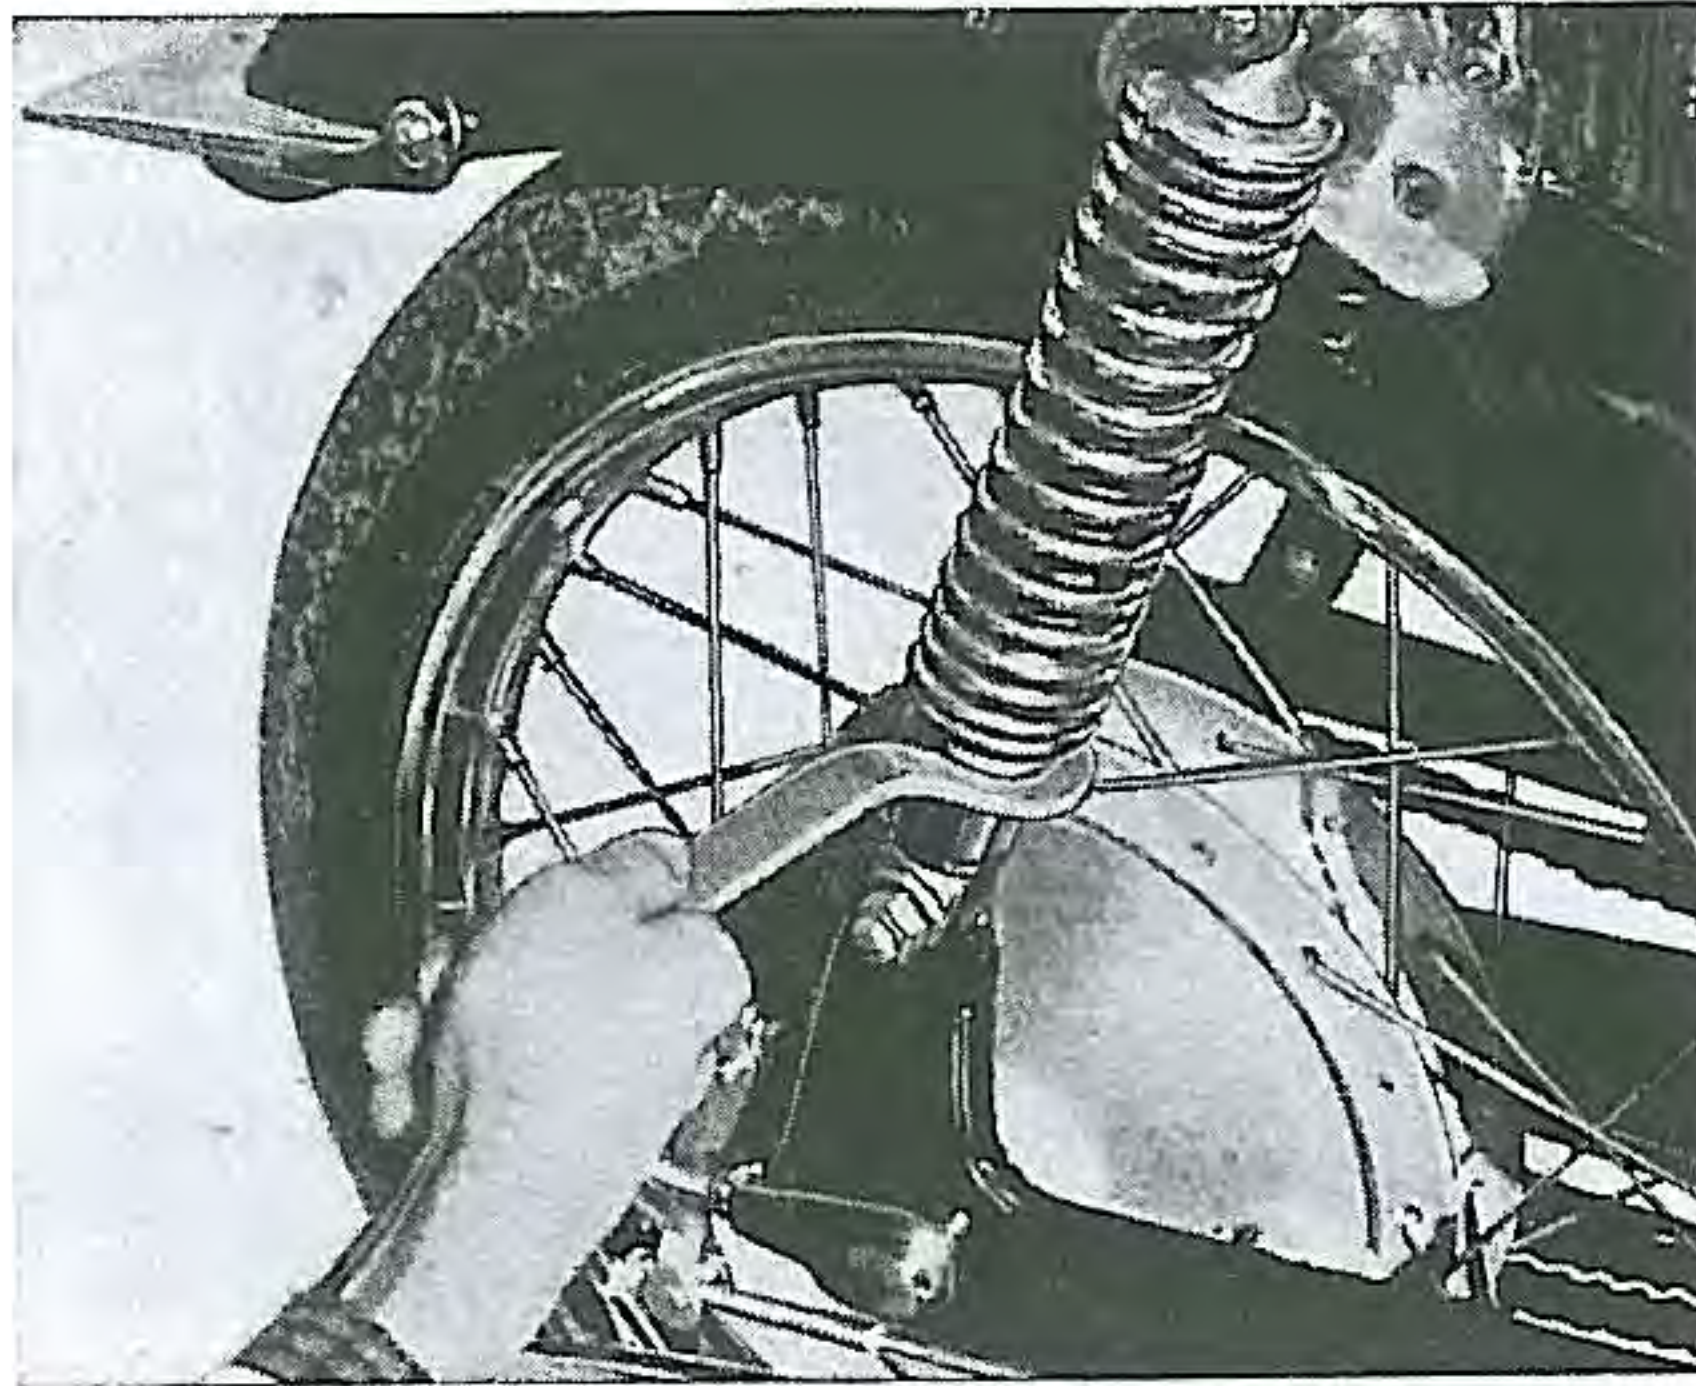

Fig. II-19. Adjusting tension of rear shock absorber spring (CB92)
- (5) Adjust spring tension according to usage, that is, for touring or racing, using pin spanner provided in the tool kit. (Fig. II-19)